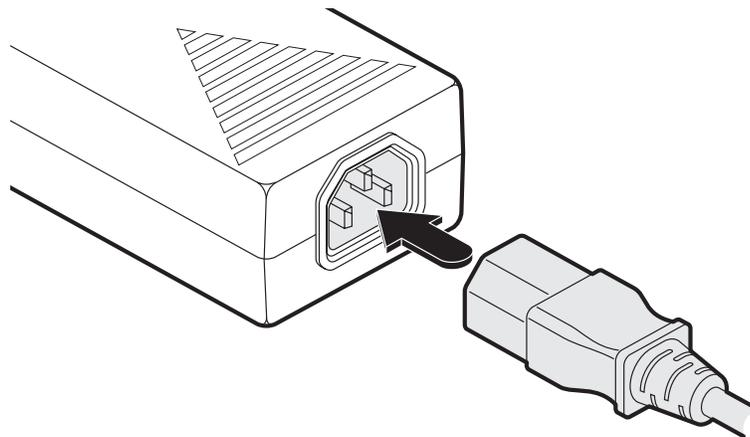

Figure 3-6. Attaching the IEC connector of the power lead to the adapter.
3. Connect the IEC connector of the supplied country-specific power cord to the socket of the power adapter. See Figure 3-6.